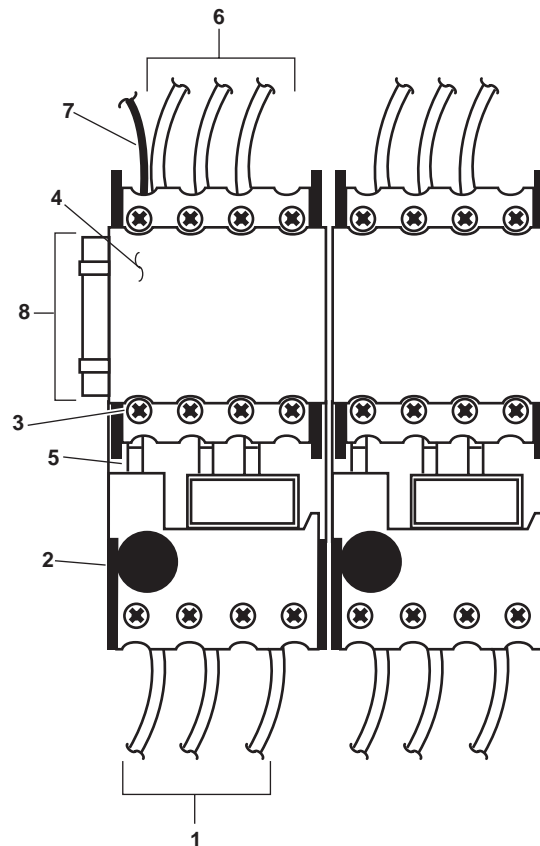

Figure 6. Thermal Relay Replacement
2. Label and disconnect the wiring (figure 6, item 1) on the load side of the thermal relay (figure 6, item 2).
3. Loosen the clamping screws (figure 6, item 3) on the load side of the magnetic contactor (figure 6, item 4) securing the line leads (figure 6, item 5).
4. Allow the front side of the thermal relay (figure 6, item 2) to drop down and lift the rear of the thermal relay to remove it from the magnetic contactor (figure 6, item 4).
1. Position the rear of the thermal relay (figure 6, item 2) into the retaining slot in the magnetic contactor (figure 6, item 4).
2. Lift the front of the thermal relay (figure 6, item 2) and guide its line side leads (figure 6, item 5) into the clamping screws (figure 6, item 3) on the magnetic contactor (figure 6, item 4).
3. Secure the line side leads (figure 6, item 5) by tightening the clamping screws (figure 6, item 3).
4. Connect the load side wiring (figure 6, item 1) using the labels from step 2 of Removal as a guide. Remove the labels.
2. Label and disconnect the wiring (figure 6, item 6) from the line side of the magnetic contactor (figure 6, item 4) and from the ground (figure 6, item 7).
3. Slide the magnetic contactor (figure 6, item 4) sideways to remove it from the mounting rail (figure 6, item 8).
1. Slide the magnetic contactor (figure 6, item 4) onto the mounting rail (figure 6, item 8).
2. Connect the wiring (figure 6, items 6 and 7) using the labels from step 2 of Removal as a guide. Remove the labels.